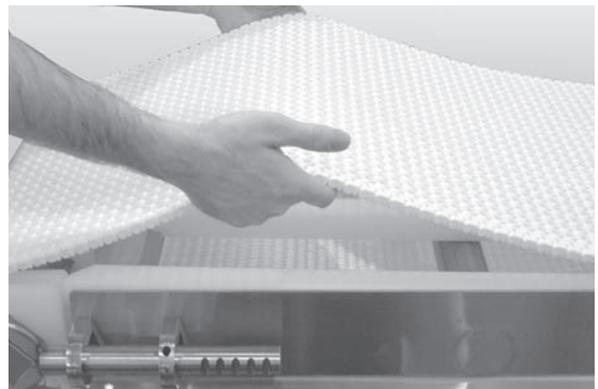

Figure 41
3. Lift up on the belt (Figure 41).